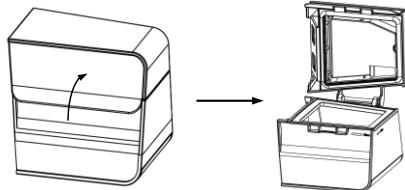

Fig. 18-1
**(1) Opening the Water Chamber:** Open the cap of the water chamber, as shown in Fig. 18-1.